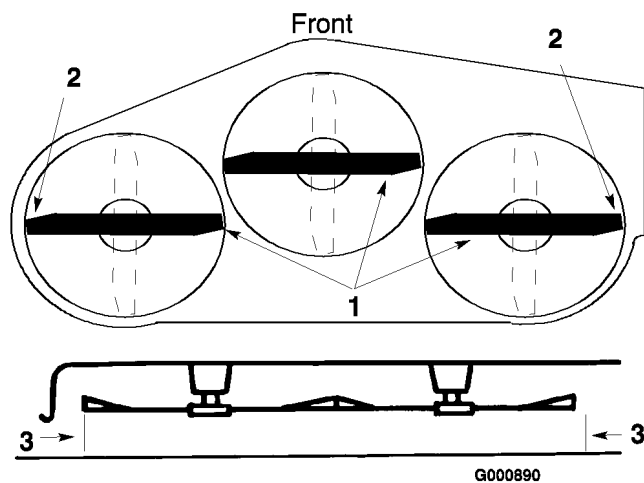

Figure 42
4. Carefully rotate the blade(s) from side to side (Figure 42). Measure between the outside cutting edges and the flat surface (Figure 42). If both measurements are not within 3/16 inch (4.75 mm), an adjustment is required; refer to steps 5 and 6.